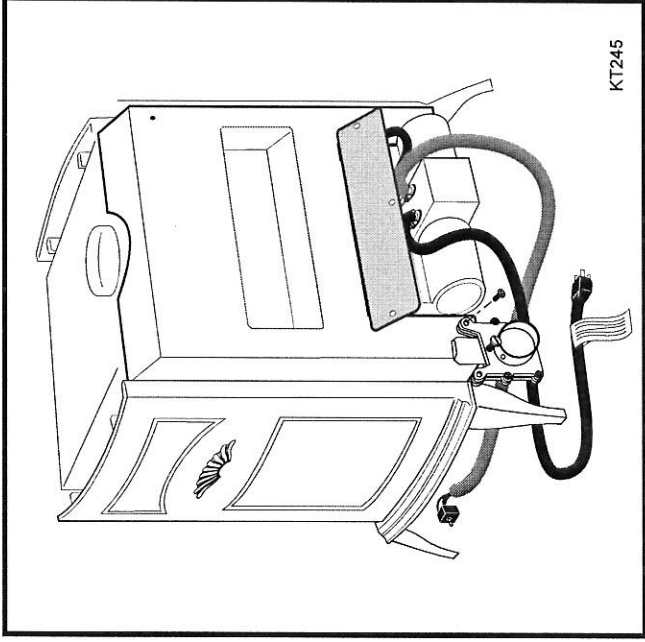

Fig. 12 Adapter attachment with an optional fan installed on heater.
3. Use a 3/4" sheet metal screw to attach the adapter assembly to the rear skirt as shown in Figure 12 or 13.